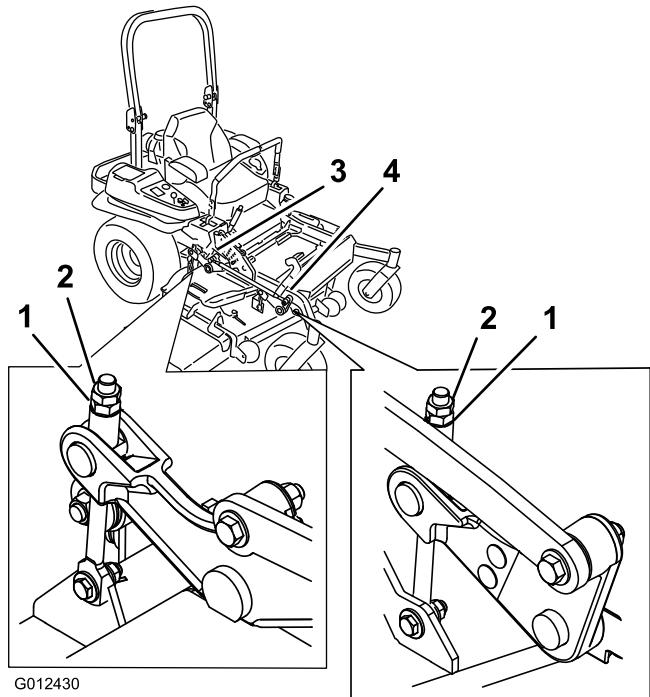

**Figure 85**
9. On both sides of the deck, measure from the level surface to the front tip of the blade (Position A). The measurement should read 3 inches (7.6 mm) (Figure 85).
15. On both sides of the deck, measure from the level surface to the back tip of the blade (Position B). The measurement should read 3 1/4 inches (8.3 cm) (Figure 85).